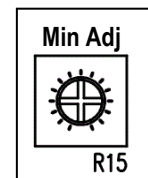

Fig. 23
- 7.1 **Adjusting for Minimum AC Output:** Switch main power to the OFF position. Set front panel potentiometer to the zero mark. Using a 1.5mm flat screwdriver, rotate potentiometer R15 on the control board to the minimum position, fully counterclockwise. Switch main power to the ON position, slowly rotate potentiometer R15 on the control board clockwise until the feeder starts to vibrate. See Fig. 23.